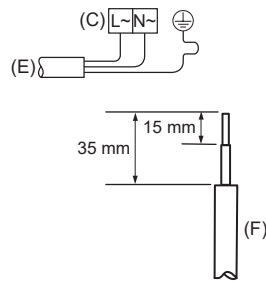
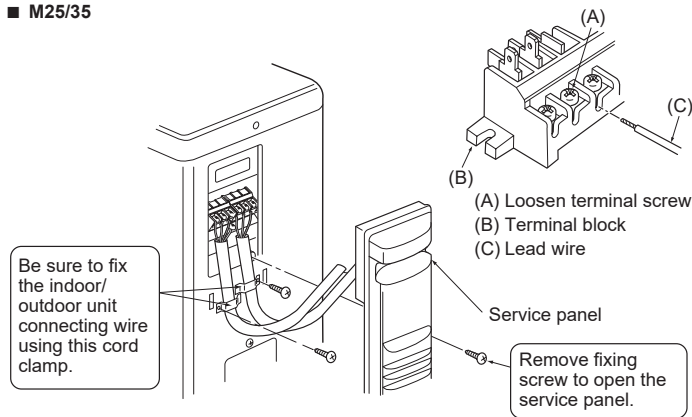
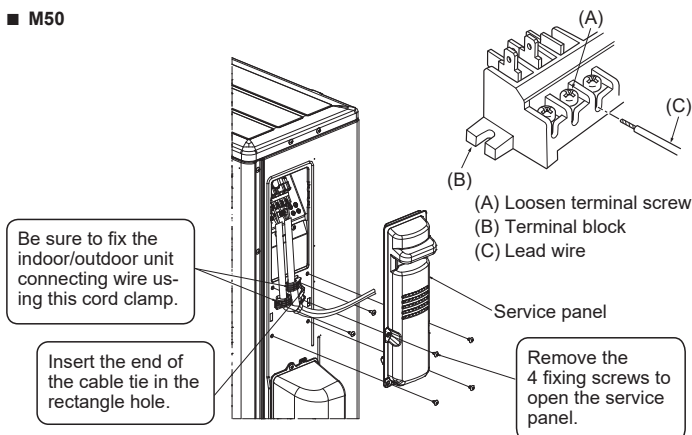
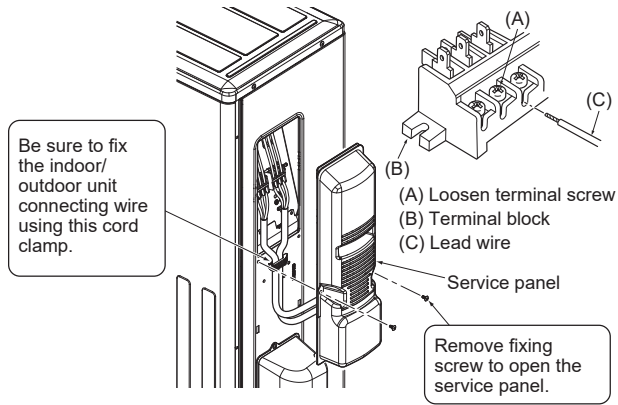

Fig. 6-2
Fig. 6-3
Fig. 6-4
Fig. 6-5
6.1. Outdoor unit (Fig. 6-1, Fig. 6-2, Fig. 6-3, Fig. 6-4, Fig. 6-5)
- (1) Remove the service panel.
- (2) Wire the cables referring to the Fig. 6-1, Fig. 6-2, Fig. 6-3, Fig. 6-4 and the Fig. 6-5.
- Perform wiring as shown in the diagram to the lower left. (Procure the cable locally) (Fig. 6-2)
- (A) Connecting cable
- (B) Indoor terminal block
- (C) Outdoor terminal block
- (D) Always install an earth wire longer than other cables.
- (E) Power supply cord
- (F) Lead wire